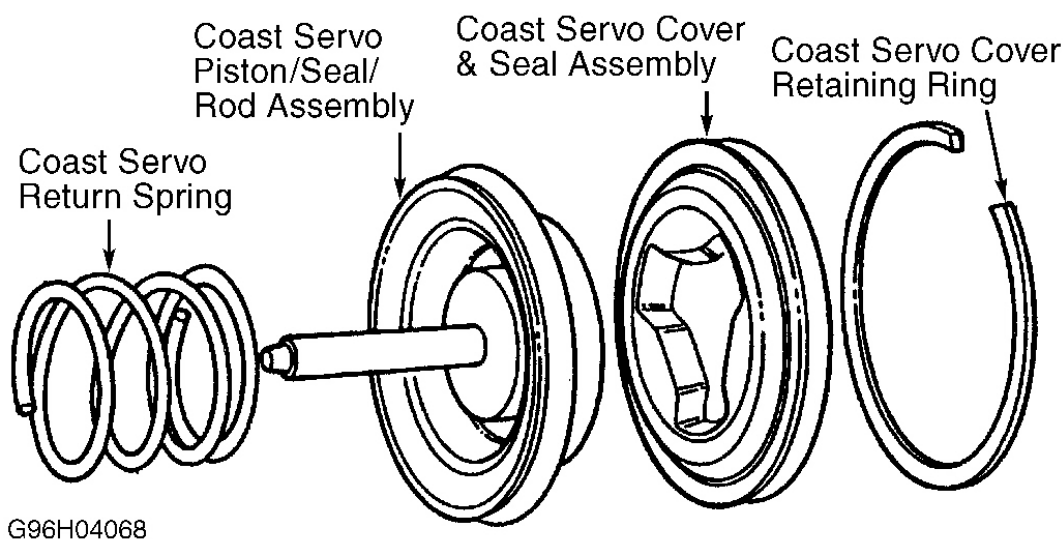

Fig. 38: Exploded View Of Coast Servo
14. Install coast servo assembly. Ensure NEW seals have been installed on coast servo piston and cover. See **Fig. 8** and **Fig. 38**. Install front planetary/reverse clutch assembly with installation handle, (handle was added to assembly during COMPONENT DISASSEMBLY & REASSEMBLY procedure). Align anchor bolt pocket on assembly with anchor bolt case hole.